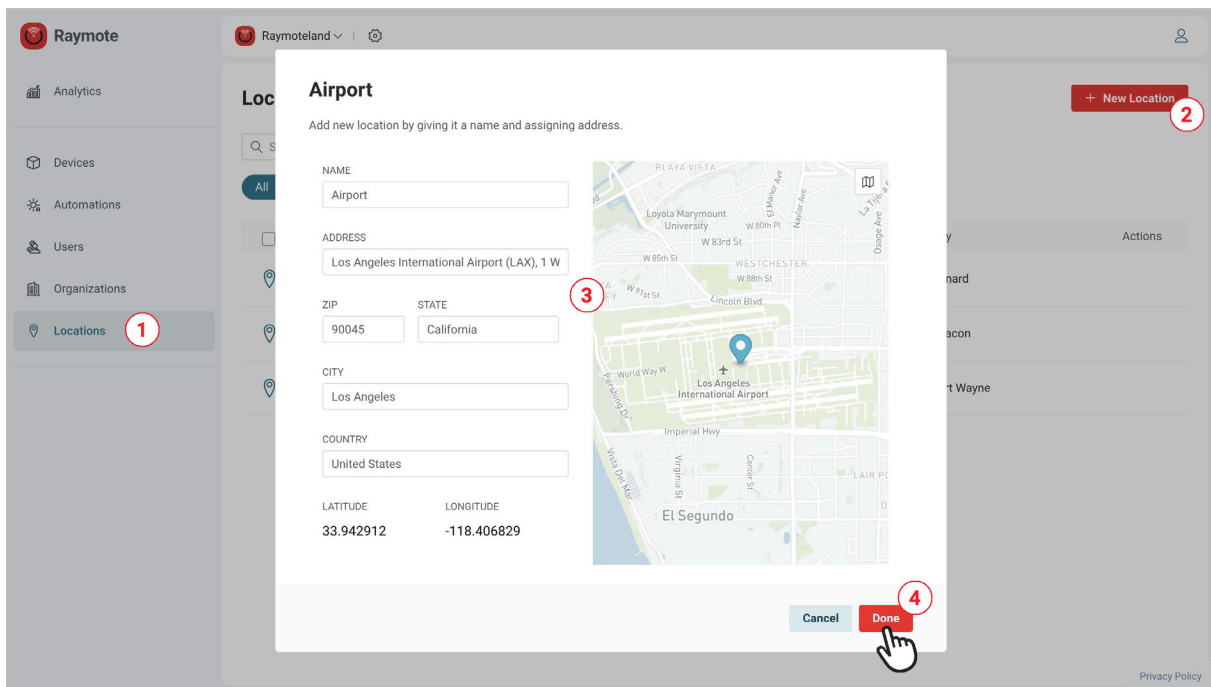

Figure 52. Organization Settings Menu
1. Click on the "Locations" icon on side bar, see number 1 in **Figure 52**.
2. Click on "+ New Location" button on the screen. See number 2 in **Figure 52**.
3. Enter the Job Site Name. As you enter the name, the window will expand to allow to fill in the address. See number 3 in **Figure 52**. Click "Done" button to add the new location. See number 4 in **Figure 52**.